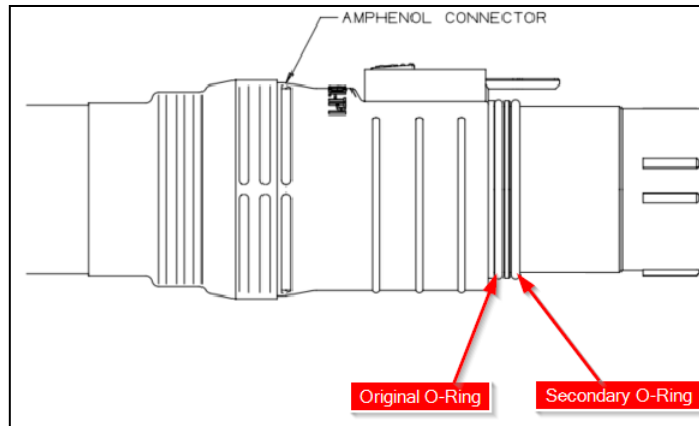

Figure 3 - O-Ring installation location reference.
10. After removing the corrosion from the two HV cables, place them on a work bench or suitable work surface. Install supplied O-Ring P/N – 1036285 as shown. See Figure 3.